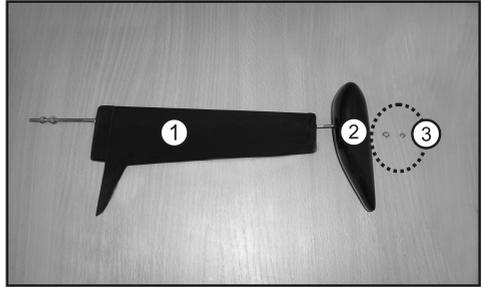

Figure 2a
- Figure 2a shows the keel (1) and the ballast (2) and a washer plus M3 nut for attachment of the ballast keel (3).